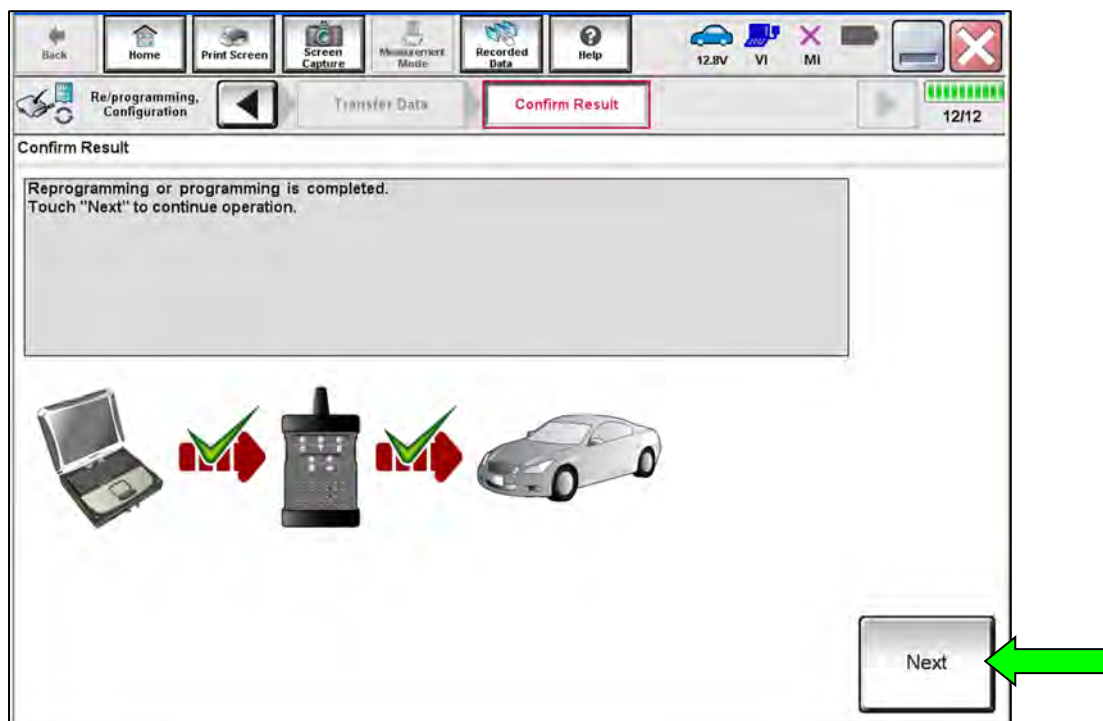

Figure 17
- When the screen in Figure 17 displays, the reprogramming is complete.
- If the screen in Figure 17 does not display (indicating that reprogramming did not complete), refer to **ICC/ADAS Recovery** on the next page.